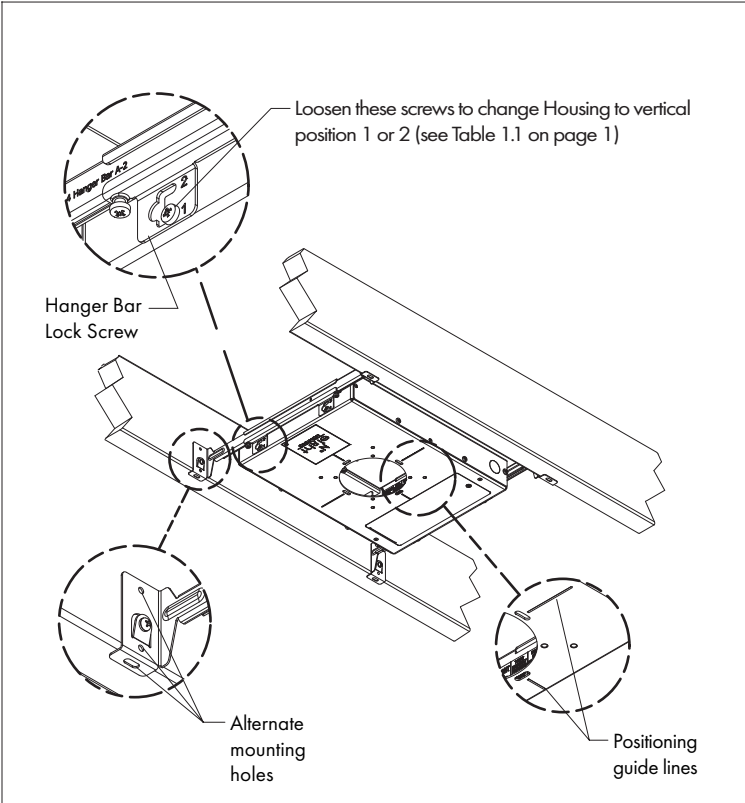

FIG 3.1 Fastening Housing to joists
STEP 1 Spread Hanger Bars to approximate joist spacing. Temporarily secure Lock Screws to keep Housing from sliding along Hanger Bars – **FIG 3.1 & 2.2.**
STEP 2 Secure Housing and Hanger Bar assembly to Joists using either the fasteners supplied on Hanger Bars or fasteners through alternate mounting holes – **FIG 3.1.**
STEP 3 Reposition Housing along Hanger Bars as needed. Use guide lines to help locate Housing relative to nearby walls or other fixtures – **FIG 3.1 & 3.2.**